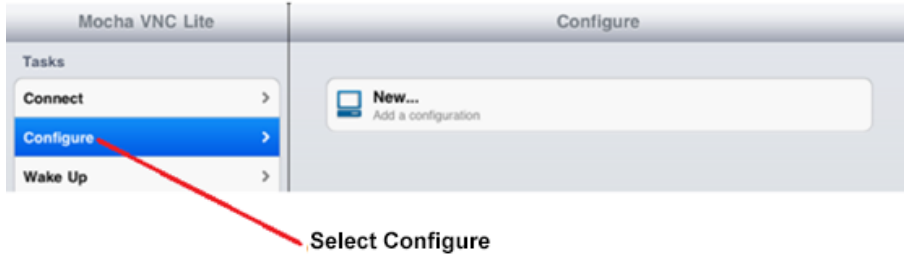

Figure 65: Mocha VNC Lite Configure (New) Screen
10. Open the application and select **Configure**. (Figure 65)